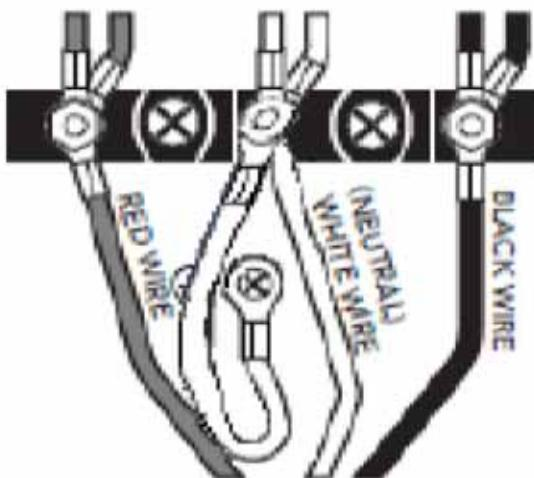

Figure 15: 3-Wire Connection
3. Secure the neutral, grounded wire of the supply circuit, to the center stud (silver colored) of the terminal block (see Figure 15).